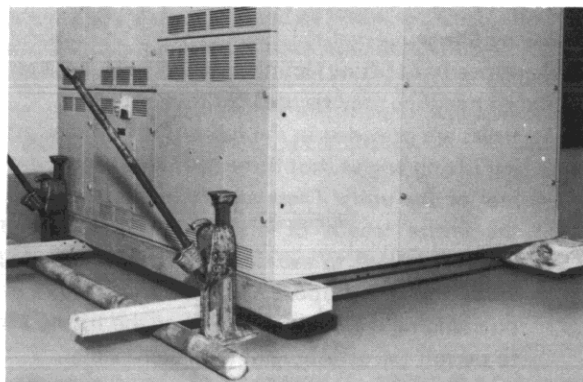

Fig. 3-Switchgear Raised, Rollers and Channels in Place Prior to Lateral Moving.
3. For lateral moving, raise the units by jacks and remove the rollers. Place the rollers laterally with steel channels (not furnished) resting on the rollers as shown in Fig. 3 and 4. Move the units, using procedure described in paragraph 2, until they are